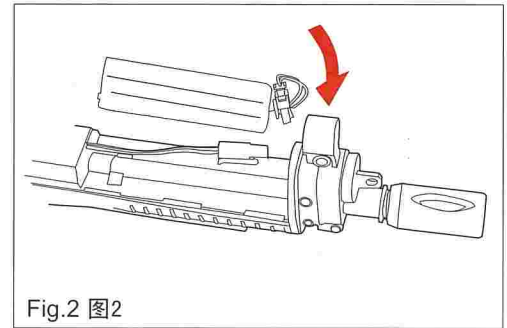
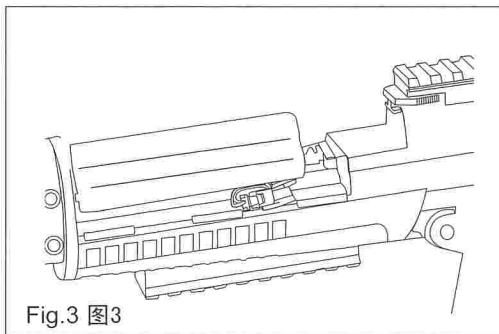

Fig.2 图2
Fig.3 图3
- Install the battery into the Battery Chamber. Plug the battery connector into the wire socket. (Fig.2 ,Fig.3)
装入电池,把电池接头放置在线槽内。(图2,图3)